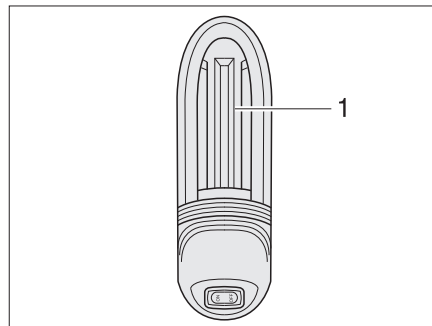

Fig. 365 Garage light
- Push the light covering (Fig. 365,1) up slightly and remove it.